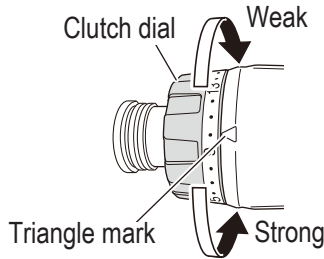

Fig. 13
- 6. Confirm the clutch dial position (**Fig. 13**)
- (2) Tightening torque indication (**Fig. 13**)
(3) Adjusting the tightening torque (**Fig. 13**)